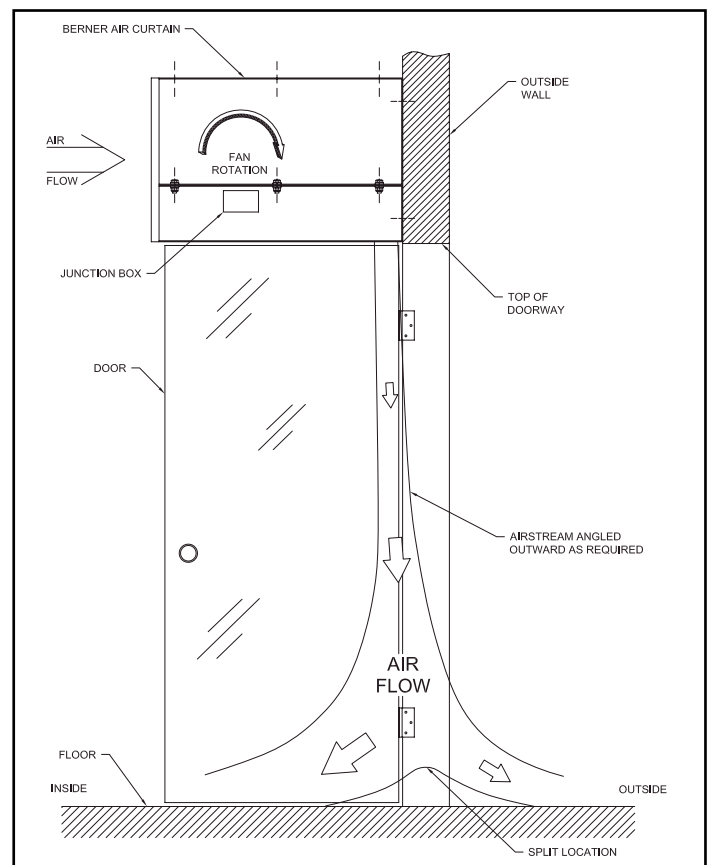

Figure 7
(See Figure 7)
- B. Adjust the angle of the air stream by turning the vanes in the outlet nozzle until the split lies just outside the door threshold. See Figure 7.